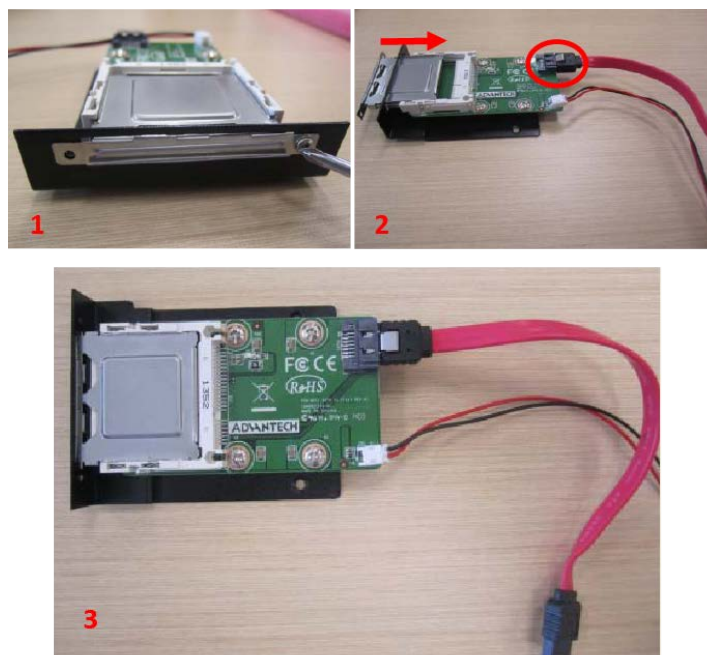
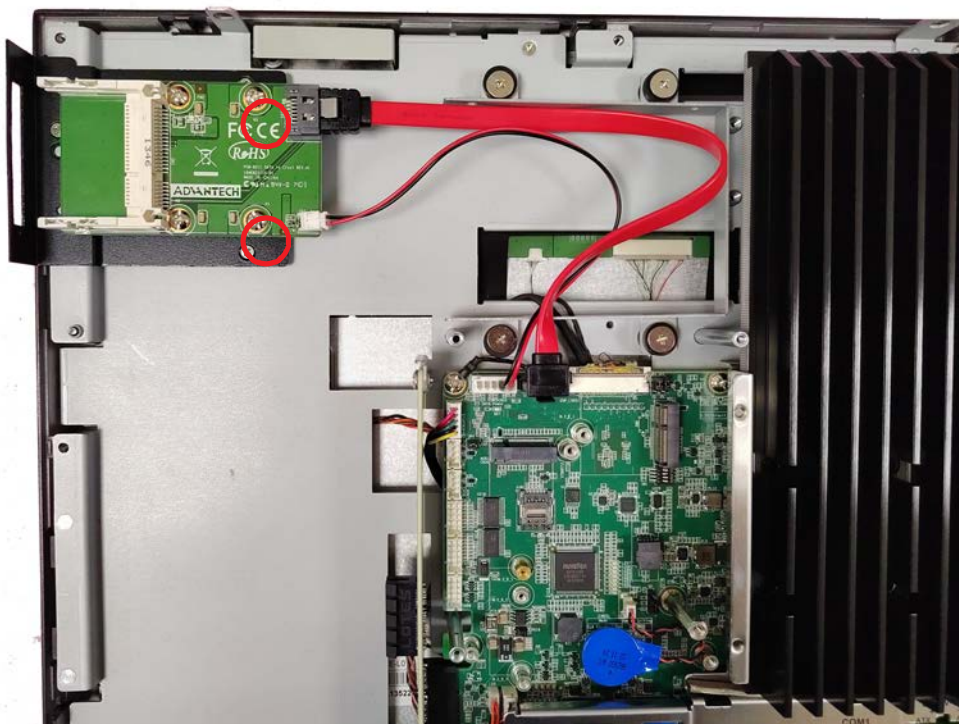

Figure 2.36
Figure 2.37
2. Retrieve the CFast module card from the module case and remove the two screws located at the side (1) of the metal tray. Affix the CFast card to the underside of the metal tray. Then insert the tray in the direction shown in Fig.2.36 (2) and connect the red SATA cable (3). The assembled CFast module should appear as shown in Fig. 2.37.